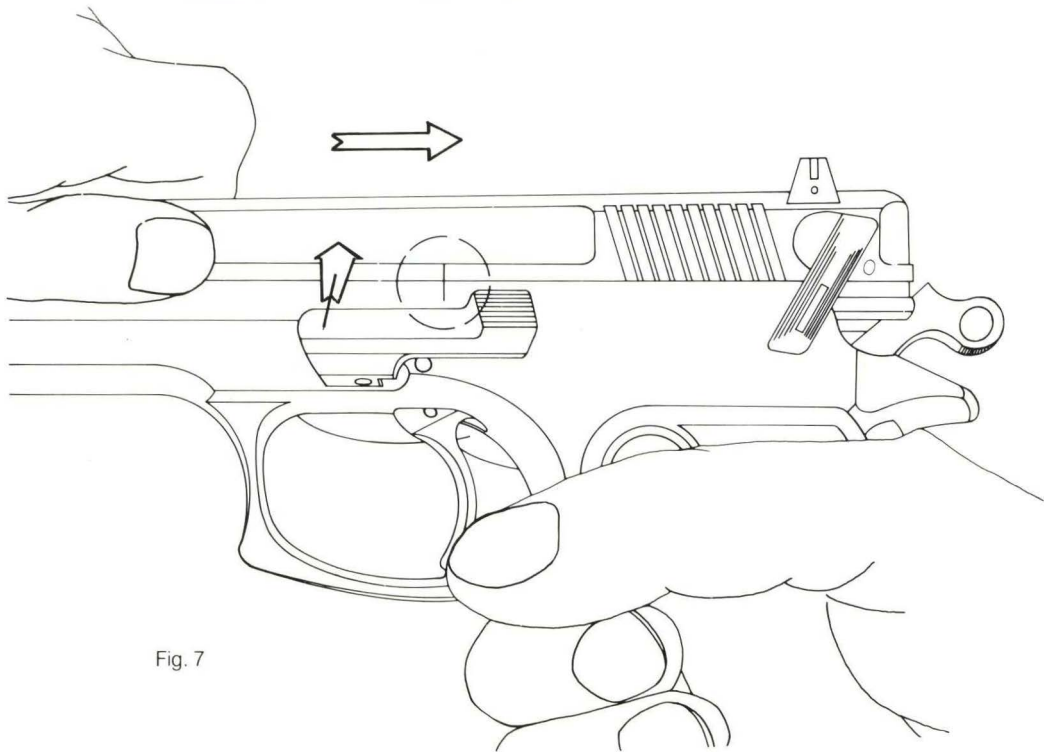

Fig. 7
3. Cock the hammer by hand and pull the slide back until reference line on the left side of the slide is in line with a corresponding line on the frame, at the same time press the index finger of the right hand against the end of the slide stop shaft protruding from the opposite side of the frame above the trigger guard, until the slide stop is partially extracted. With the thumb and index finger of the left hand grasp the slide stop and pull it out, at which moment the slide will snap forward on its guide (see fig. 7).